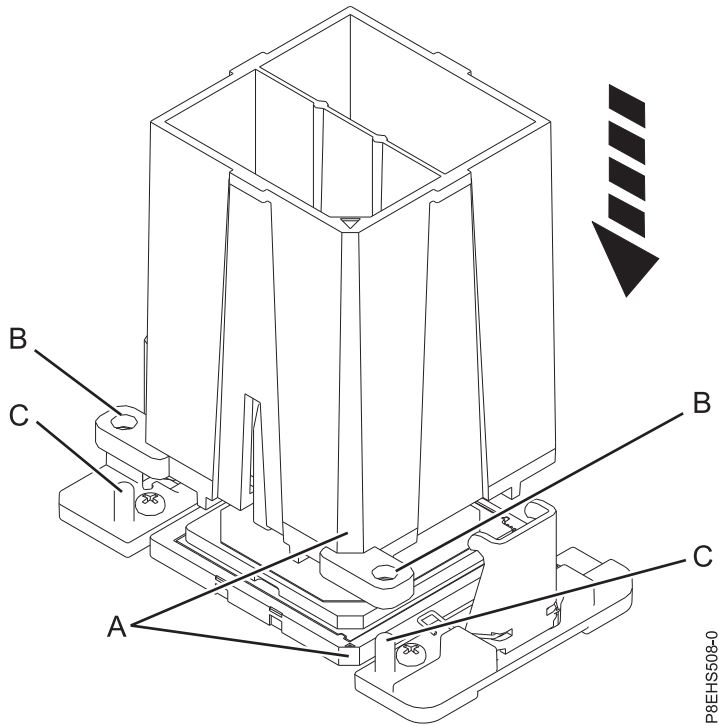

Figure 71. Lowering the removal tool onto the system processor module
- a. Using the supplied removal tool (part number 01AF101), align the beveled corner (**A**) of the tool over the beveled corner of the system processor module as shown in Figure 71 on page 71.